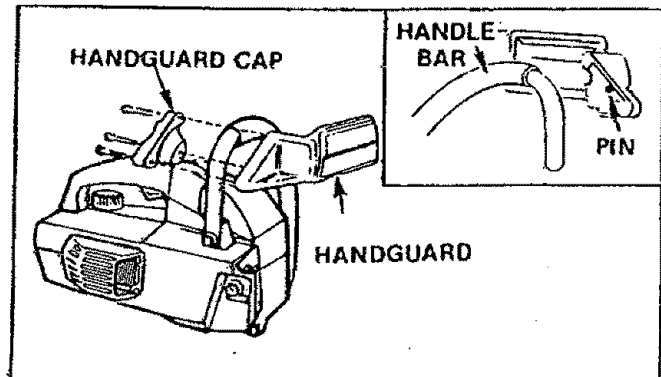

Figure 6
- Align the Handguard and Handguard Cap around the handlebar as shown in Figure 6.
- Fit the mounting pin on the Handguard into the hole in the handlebar. Figure 6, (inset).